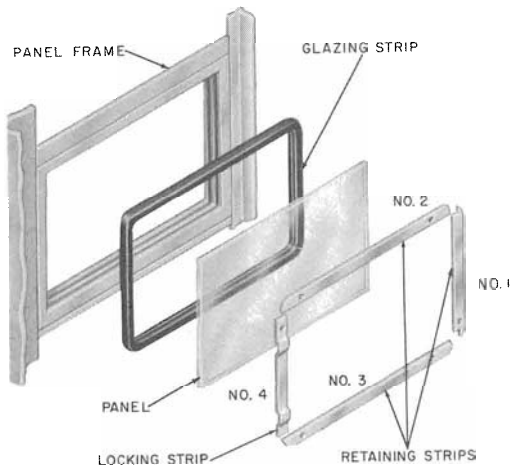

Fig. 24—Assembly of Side or Rear Panels
4.19 Booth panels and signs are held in place by four interlocking retaining strips inserted in sequence as shown in Fig. 24. The No. 4 strip is rippled and is held in place by interface friction. Refer to Table E for retaining strips.
(7) Replace retaining strips in sequence as shown in Fig. 24.